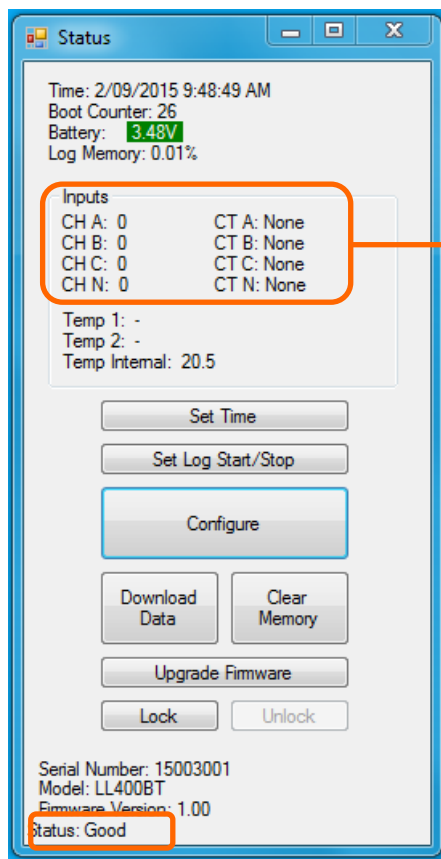

Figure 2.4.1
Step 1: Click the 'Connect' button shown in figure 2.3.3.2. If communication is successful the status window will appear as shown in figures 2.4.1 and 2.4.2.